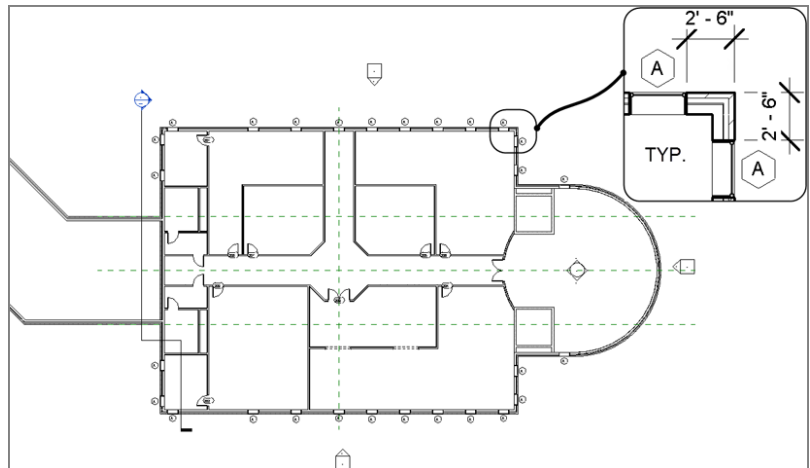

FIGURE 4.55: The layout for Level 2. Try to make the dimensions as even as possible, consistent with what is shown here.
7. Create a floor plan layout similar to Figure 4.55. Make all of the dimensions as even and as round as possible. Use all the commands and functions you've learned up to this point.